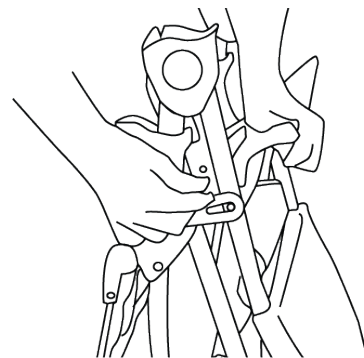

Fig. 12
19. Place the stroller on the ground with all three wheels touching the ground. Release the locking folding latch, which is located on the right side. (Fig. 12)